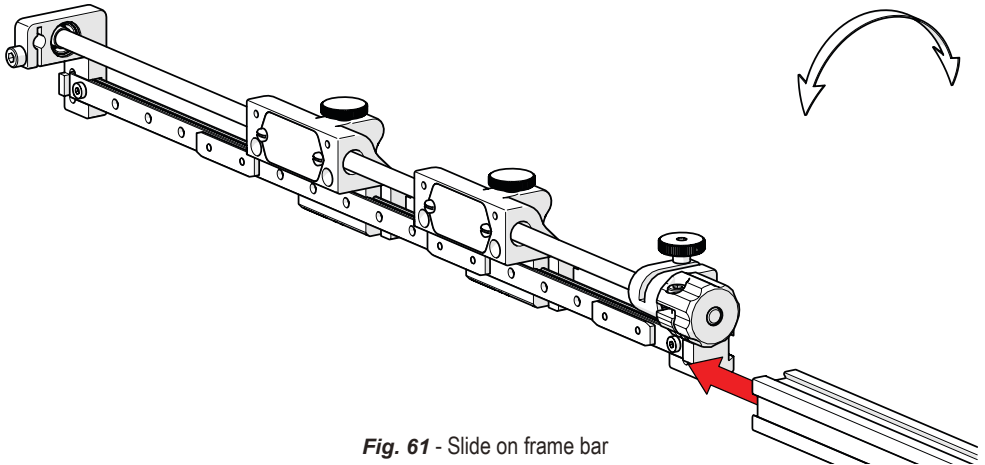
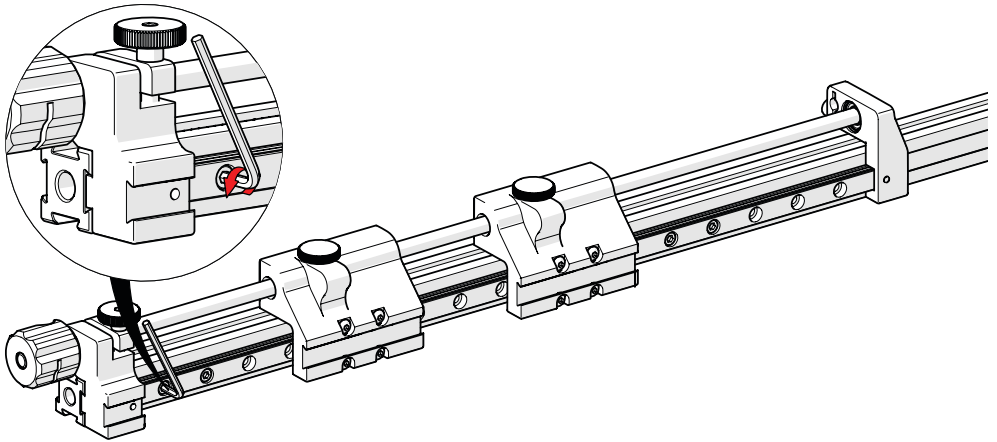

Fig. 61 - Slide on frame bar
Fig. 62 - Tighten dovetail nuts along linear rail
2. Slide the assembly onto the frame bar (*Fig. 61*) and tighten both hexagonal screws in each dovetail nut (*Fig. 62*).